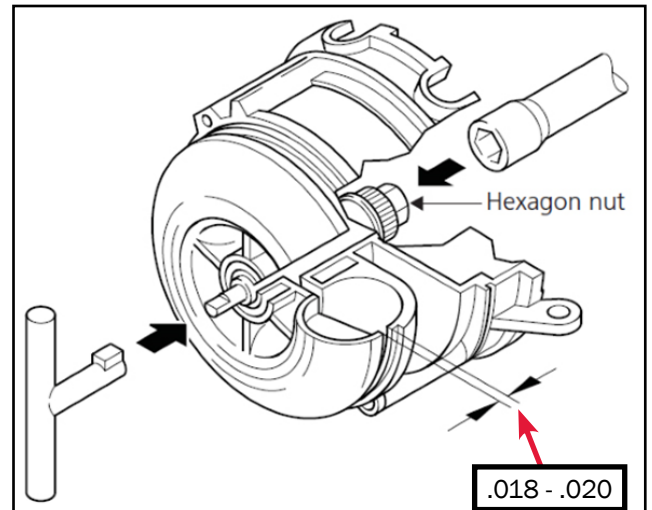

Figure 128a
- Place a feeler gauge between the combustion air blower and the flat surface of the blower casing. Slowly tighten (or loosen) the retaining nut, holding the combustion air blower, until a .018 - .020 gap is achieved. Remove feeler gauge. Reference Figure 128a.